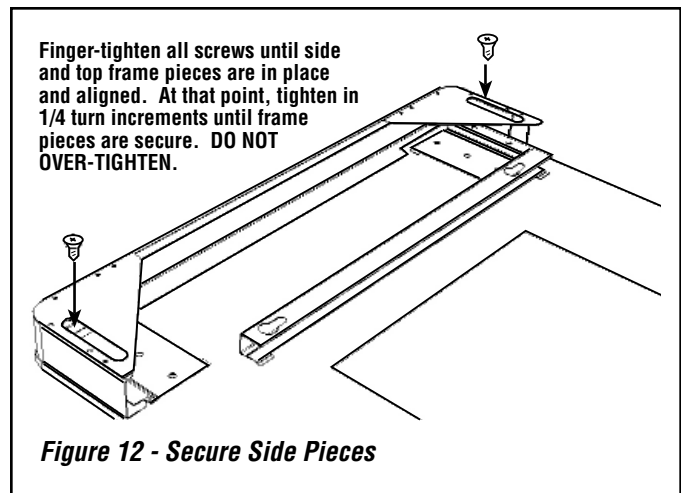

Figure 12 - Secure Side Pieces
3. Ensure the sides are neatly aligned with the glass and secure the sides using two M6 screws for each side as shown in **Figure 12**. Do not overtighten the screws.
- The screws that are used to attach the brackets to the facia as seen in **Figures 12 and 14** below **MUST NOT** be over-tightened. Over-tightening of the mounting screws may cause the glass facia to slip from its brackets. The screws should be finger-tightened until all side and top frame pieces are assembled and aligned. At that point, tighten the screws in $1/4$ turn increments until frame pieces are firmly positioned and do not move.